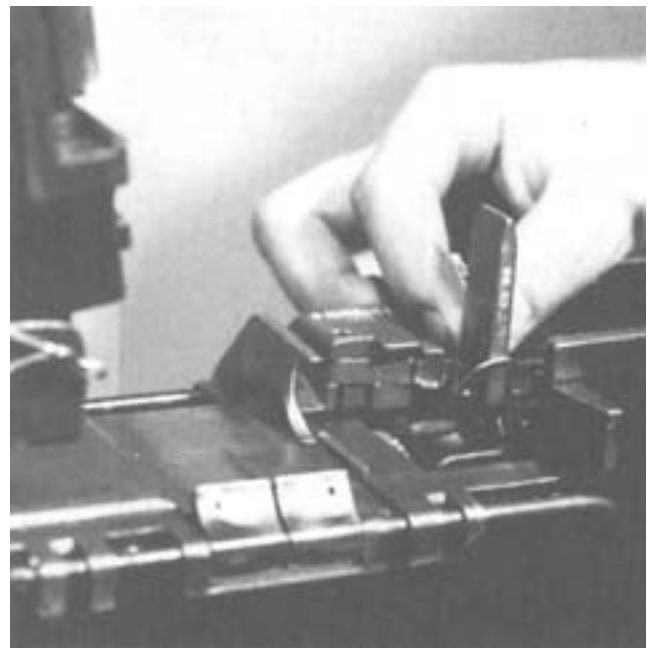

Figure 4-52. Inserting the Headspace Gage.
- Pull the retracting slide handle back until the barrel extension is about 1/16 inch from the trunnion block. This will ensure that the locking surfaces of the breach lock and the bolt are in proper contact. This prevents the driving spring group and weight of the parts from giving a false determination. See figure 4-52.